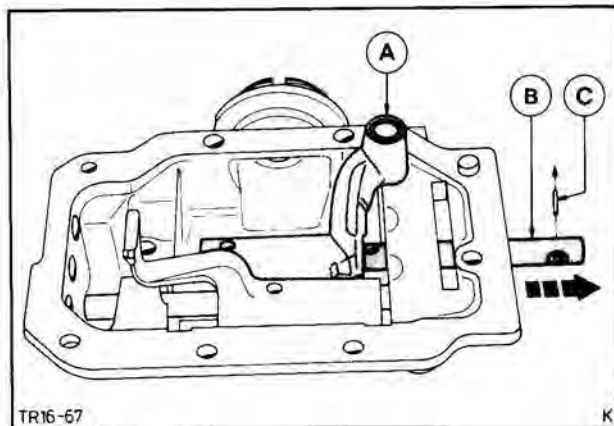

Fig. 118. Remove 3rd/4th gear selector rail
5. Remove 3rd/4th gear selector rail and selector fork carrier, Fig. 118.